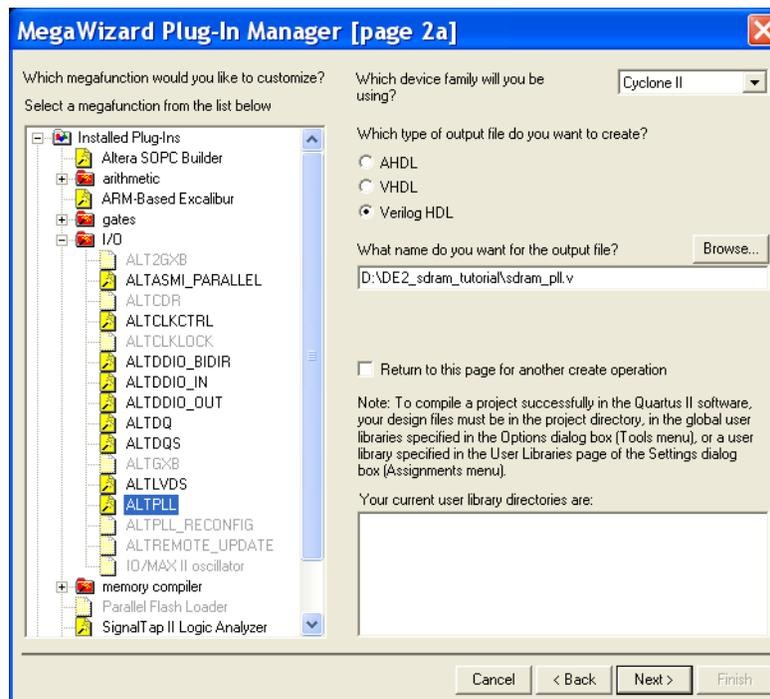

Figure 11. Select the megafunction and name the output file.
2. In the window in Figure 11, specify that Cyclone II is the device family used and that the circuit should be defined in Verilog HDL. Also, specify that the generated output (Verilog) file should be called *sdram\_pll.v*. From the list of megafunctions in the left box select I/O > ALTPLL. Click Next.